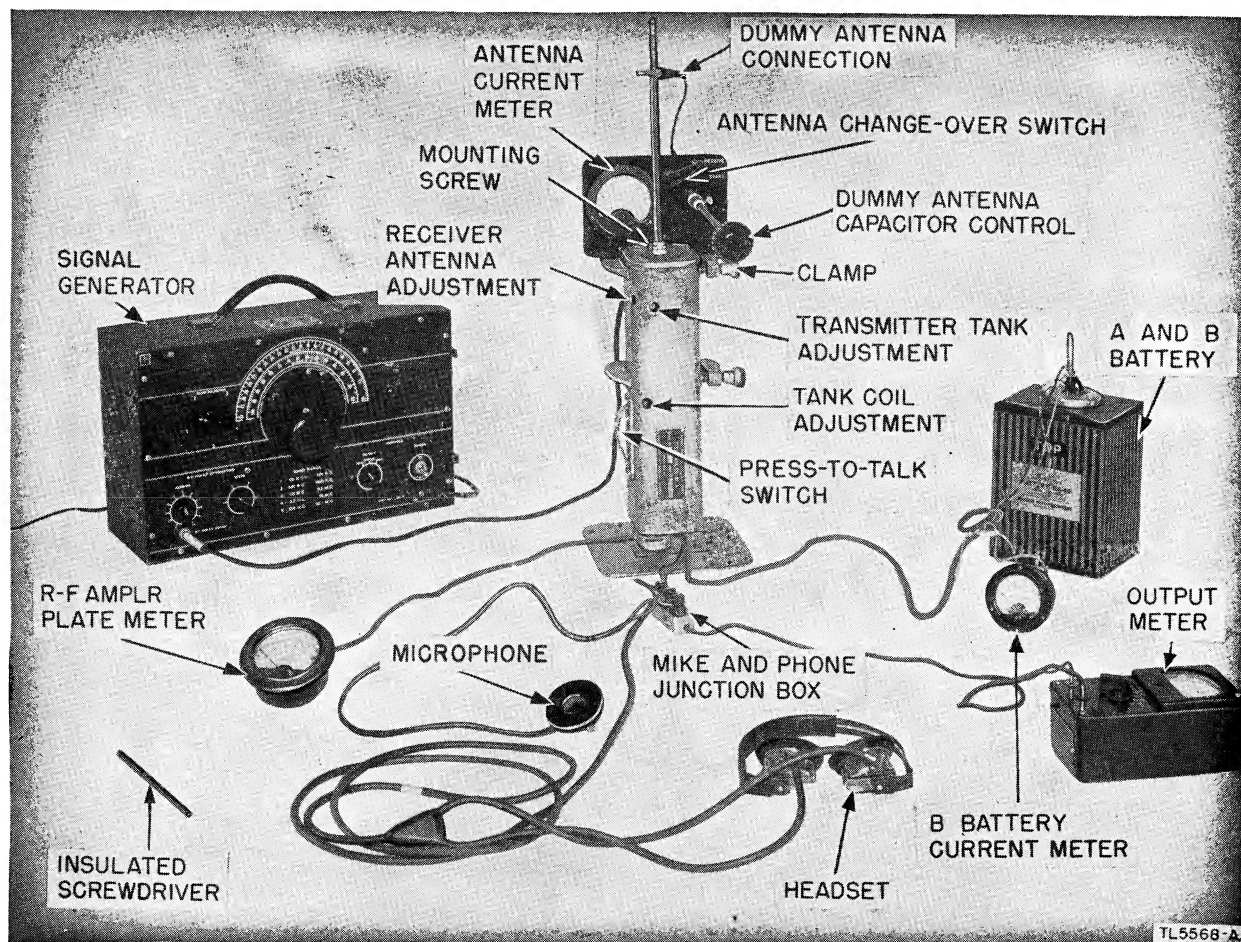

Figure 56. Test Equipment IE-15-A, set up.
(1) The resistance of the voltmeter on any range can always be calculated by the following simple rule: Resistance of the voltmeter equals the ohms per volt multiplied by the full-scale range in volts. For example: The resistance of a 1,000-ohm-per-volt meter on the 300-volt range is 300,000 ohms ($R=1,000 \text{ ohms-per-volt times } 300 \text{ volts}=300,000 \text{ ohms}$).
(2) To minimize the voltmeter loading in high-resistance circuits, use the highest voltmeter range. Although only a small deflection will be obtained (possibly only 5 divisions on a 100-division scale), the accuracy of the voltage measurement will be increased. The decreased loading of the voltmeter will more than compensate for the inaccuracy which results from reading only a small deflection on the scale of the voltmeter.
(3) When a voltmeter is loading a circuit, the effect can always be noted by comparing the voltage reading on two successive ranges. If the voltage readings on the two ranges do not agree, voltmeter loading is excessive. The reading (not the deflection) on the highest range will be greater than that on the lowest range. If the voltmeter is loading the circuit heavily, the deflection of the pointer will remain nearly the same when the voltmeter is shifted from one range to another.
(4) The ohm-per-volt sensitivity of the voltmeter used to obtain the readings recorded on the voltage and resistance charts in this manual is printed on each chart. Use a meter having the same ohm-per-volt sensitivity; otherwise it will be necessary to consider the effect of loading.
b. COMPONENTS. Test Equipment IE-15-A consists of the following components (fig. 56):
79. Test Case CS-81-() (figs. 56 and 59)